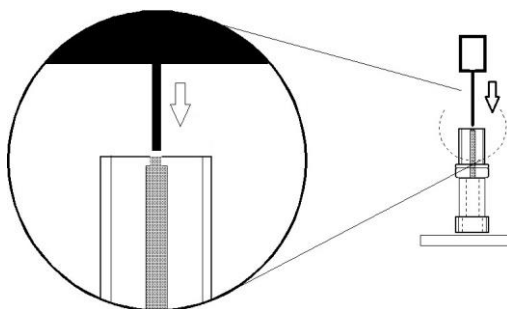

Fig. 10. Pushing the cotton wool frit out with the sb REF tool.
3. Place the open body with frit facing upward on a glass plate (Fig. 10).
4. Use the narrow end of the sb REF tool or a rod of ± 1 mm (0.039 inch) to push out the frit from the outside inward. Be careful not to damage the frit constriction in the tip of the body (Fig. 10). If the frit is dried out and giving too much resistance, soak it overnight in a beaker with demineralised water before trying again.